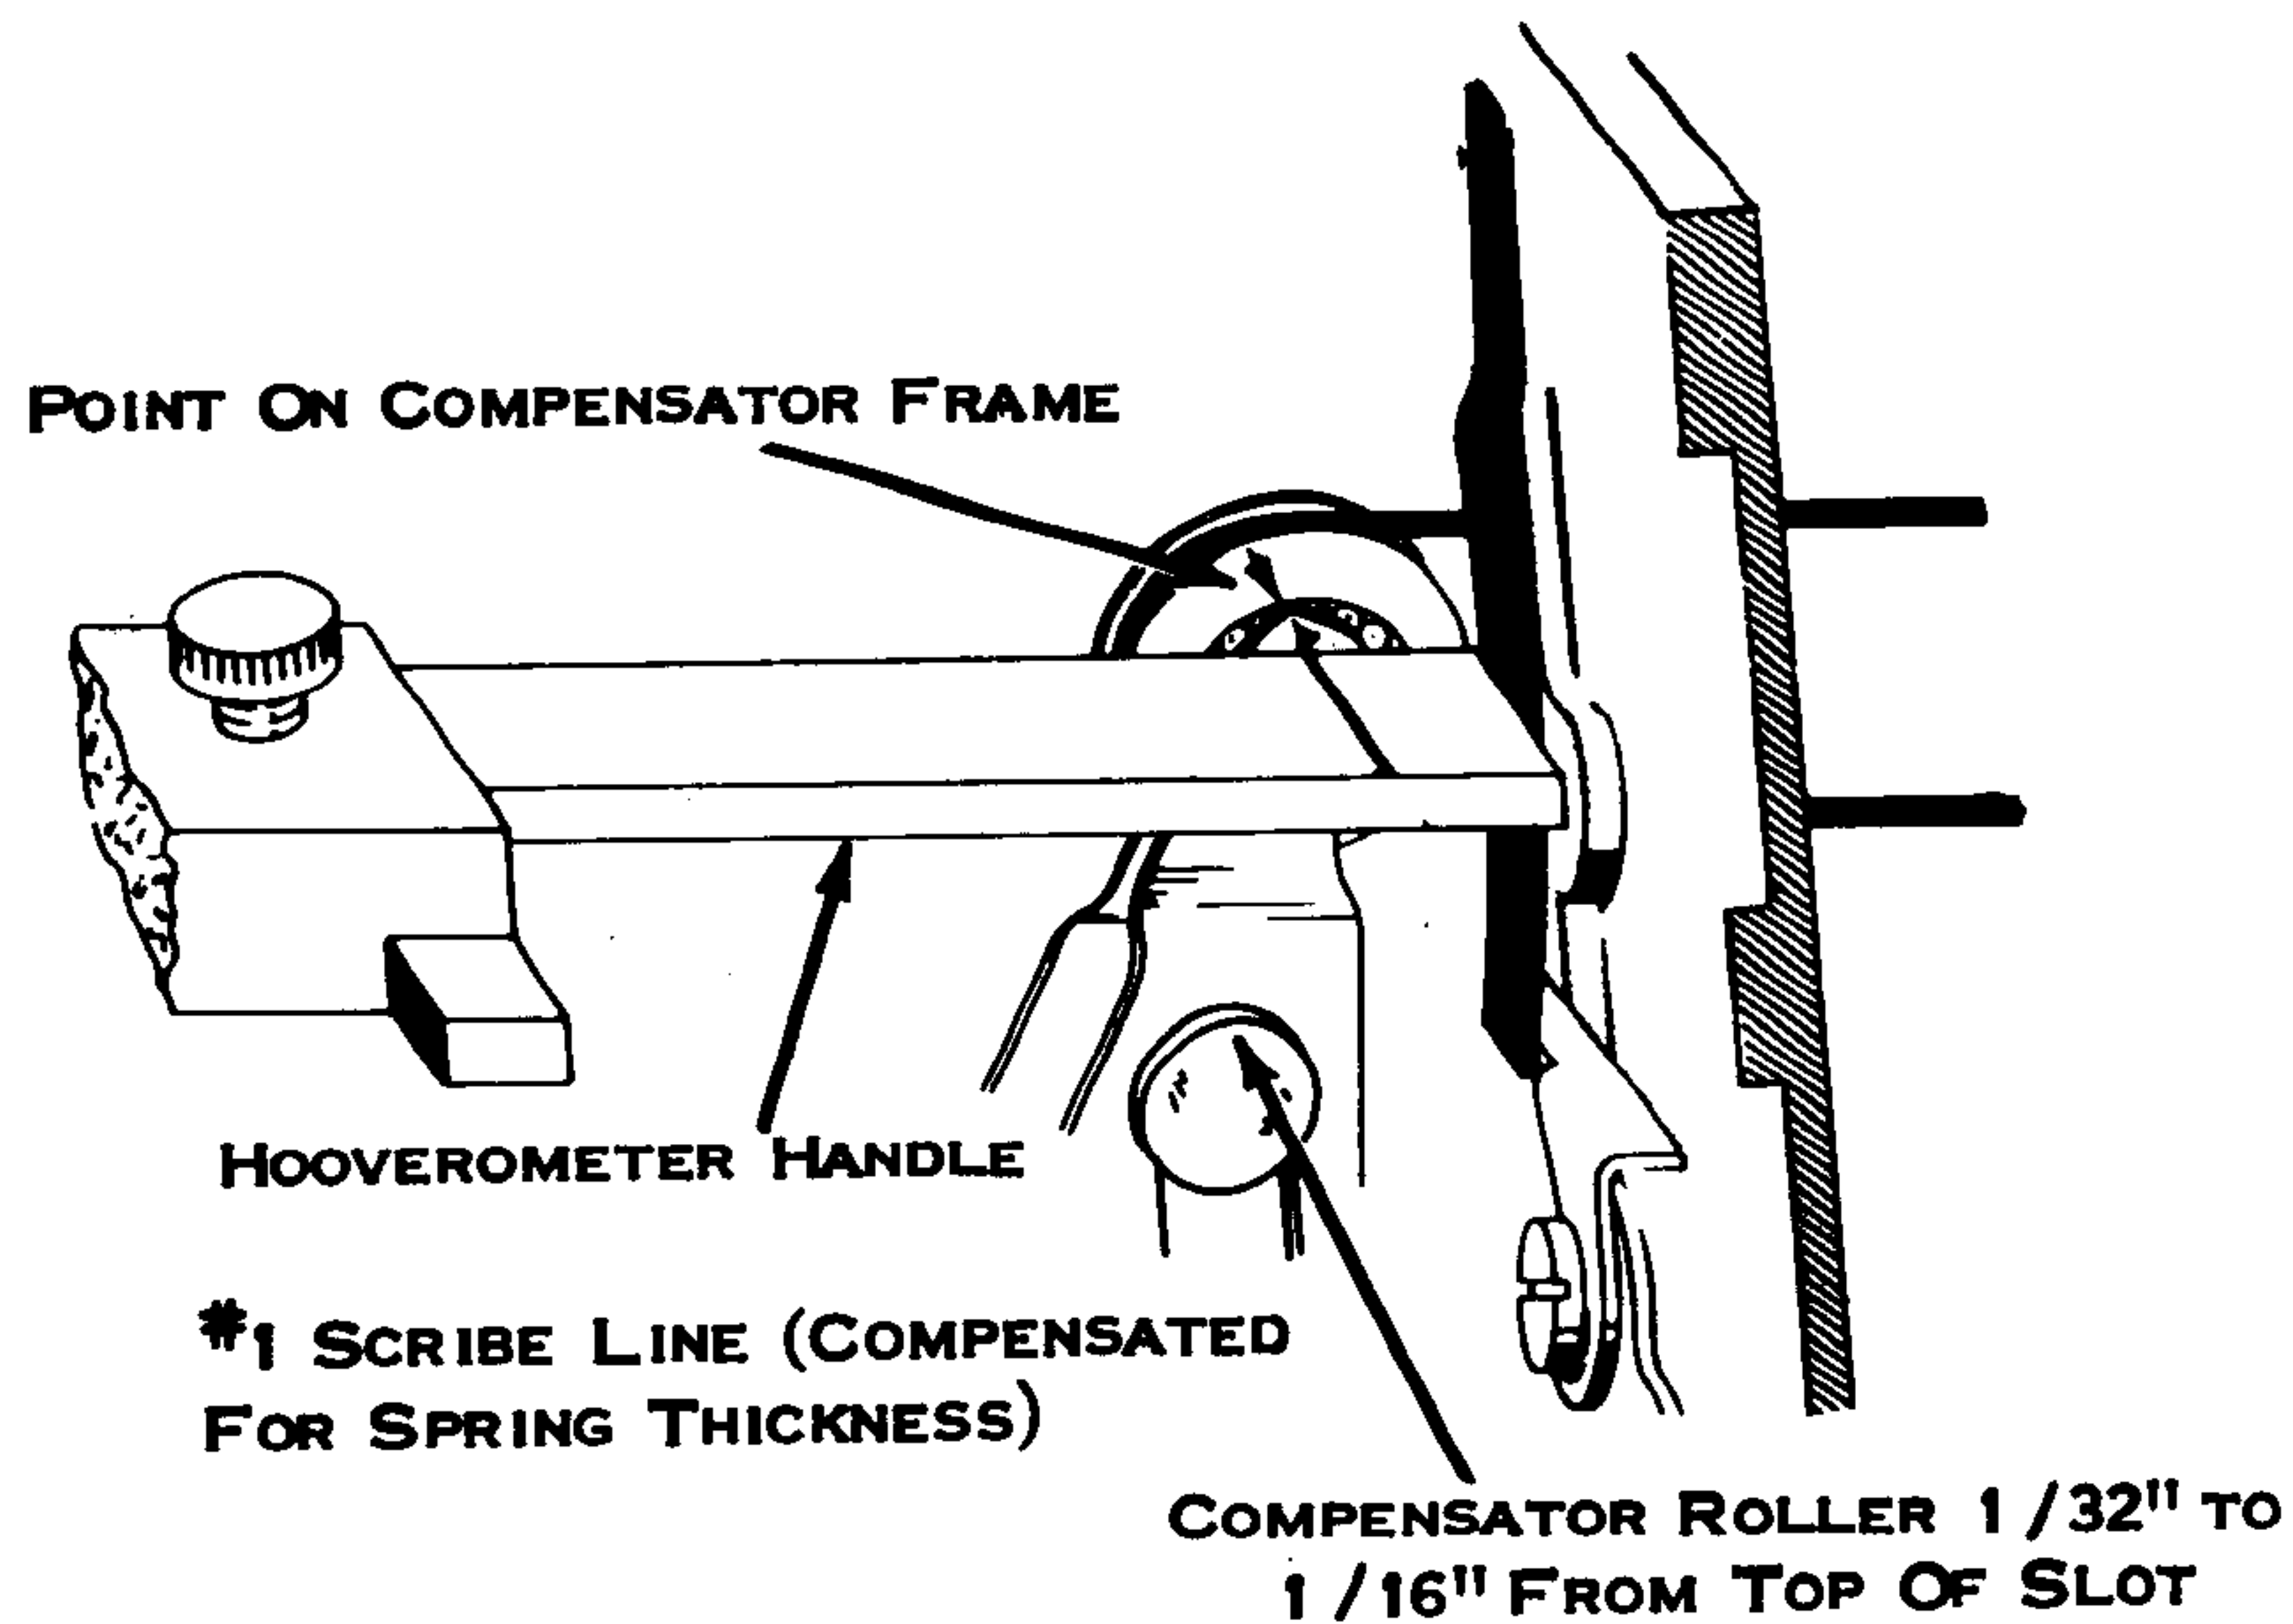

Figure 78. Rotate Link
4. Rotate Link (Fig. 78) - With the type head removed, adjust the rotate link (with the machine half cycled to an upper case zero rotate character) so that the rotate arm is .469" from the power frame. The number 1 scribe line on the Hoovermeter handle can be used to give the proper dimensions. The compensator roller should be positioned 1/32" to 1/16" from the top of its slot. **NOTE:** Zero rotate selection defined under adjustment 6.